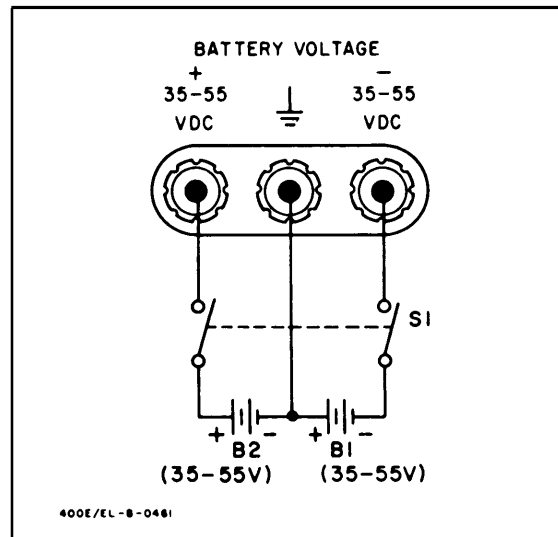

Figure 3-2. External Battery Connection
- b. To operate the Model 400E/EL with battery power, connect two 35 to 55 volt batteries as shown in Figure 3-2. Since the front panel LINE switch has no effect during battery operation, the switch in Figure 3-2 can be used as a convenient method of disconnecting the batteries when the instrument is not in use.